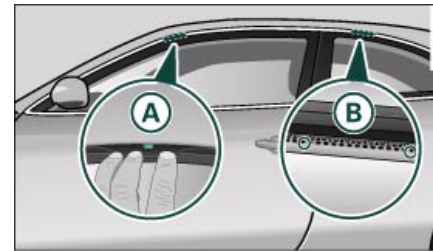

Fig. 95 Attachment points for carrier units
The front feet of the carrier units must be fitted exactly onto the locating pins (A) between the side frame and the roof frame trim ⇒ fig. 95. The pins come into view when you push the sealing lip back off the roof frame trim using the tool supplied with the roof carrier. The rear attachment points (B) are marked by two small arrows on the top edge of the side window. ■